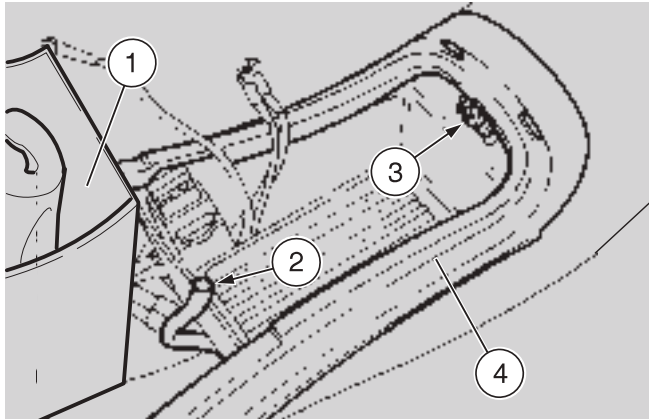

Fig. 40
- ◆ Remove the tool kit compartment (1-Fig. 40).
- ◆ Disconnect the battery breather pipe (2-Fig. 40).
- ◆ Unscrew and remove the screw (3-Fig. 40), taking the washer.
- ◆ Remove the inspection cover (4-Fig. 40) from its seat, pulling it in the direction of travel.